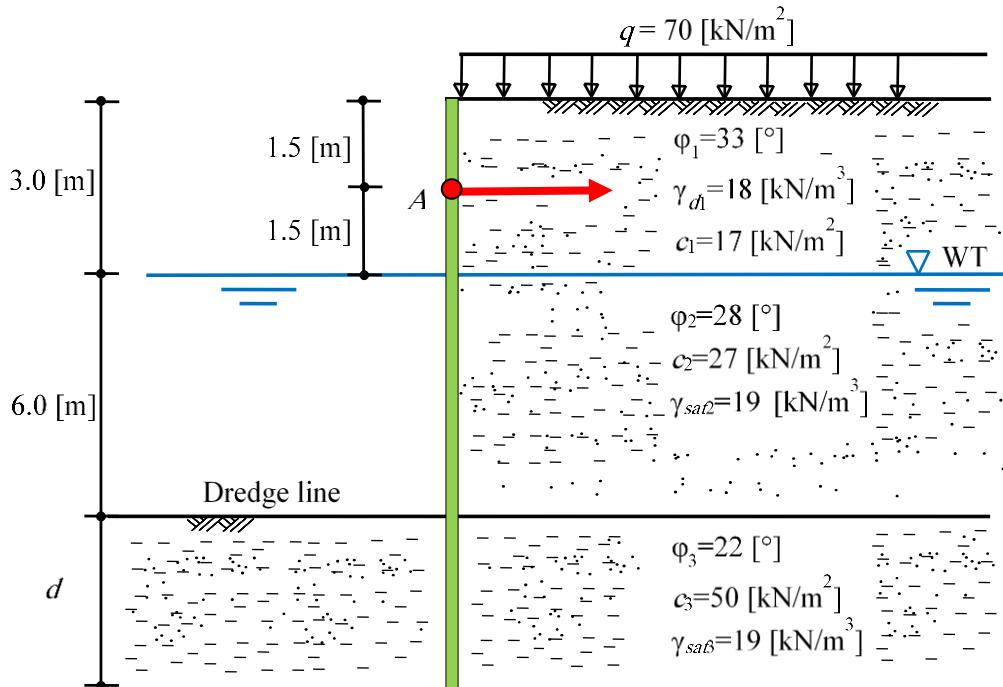

Figure 5.50 Anchored sheet pile penetrating in clay
To verify the analysis of anchored sheet pile penetrating in  $c$ -  $\phi$  soil, the theoretical penetration depth  $d$  for the given anchored sheet pile penetrating in  $c$ -  $\phi$  soil in Figure 5.50 obtained by Al-Agha (2015), Problem (1) page 237, through hand calculation using free earth support method is compared with that obtained by *GEO Tools*. The unit weight and shear parameters of the soil layers are shown in Figure 5.50.